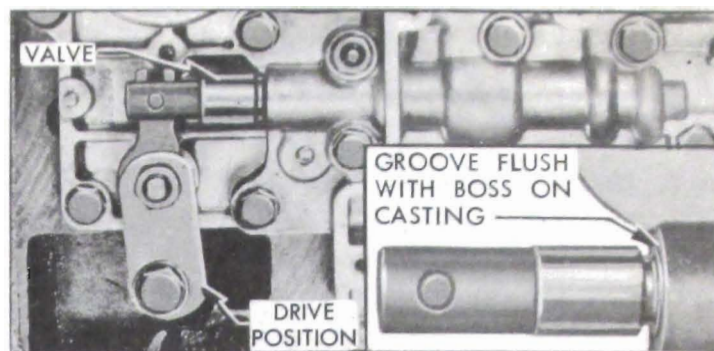

Figure 5-103—Position of Control Valve in Direct Drive Range
10. Move shift lever two detent notches to Direct Drive position and note position of control valve. The groove in the first land of the valve should be flush with the boss on the valve body. See Figure 5-103.